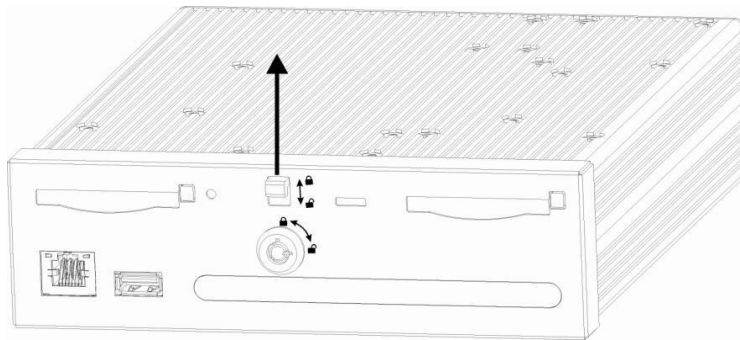

Figure 3-3
3) Lock CF card. Now you can see an interface is shown as below after you firmly inserted the CF card. Please follow the direction arrow in Figure 3-3 to push the plastic handspike and then lock the CF card.